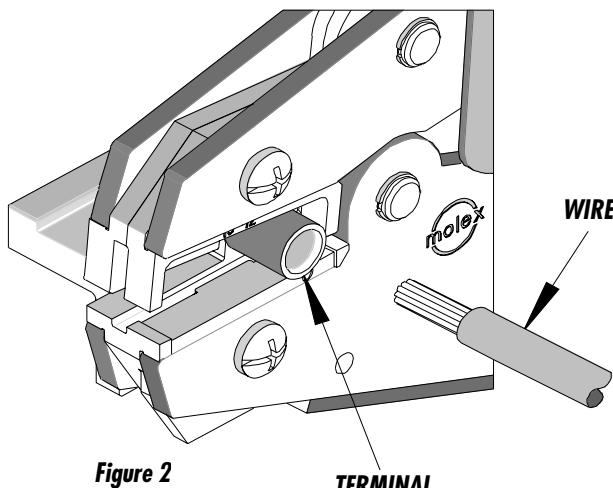

Figure 2
3. **Partially close the tool to hold the terminal in place (See Figure 2).**
4. **Insert the properly stripped wire into the terminal barrel (See Figure 2 and 3). The wire insulation will stop against the taper of the terminal. Cycle the tool.**